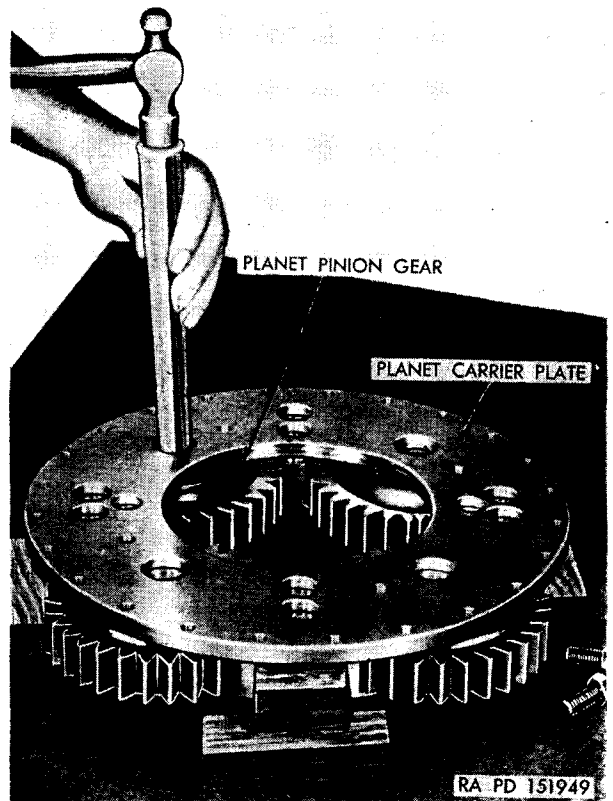

Figure 210. Separating planet carrier from plate.
- (1) Inspect the reverse-range planet carrier assembly (fig. 143). Rotate all four planet pinion gears. There should be no clatter or roughness during rotation. If disassembly is necessary, remove eight bolts, using a $\frac{3}{8}$ -inch wrench, from the planet-carrier plate. Using a brass drift and tapping lightly on the four spindles, separate the planet carrier from the planet-carrier plate (fig. 210).